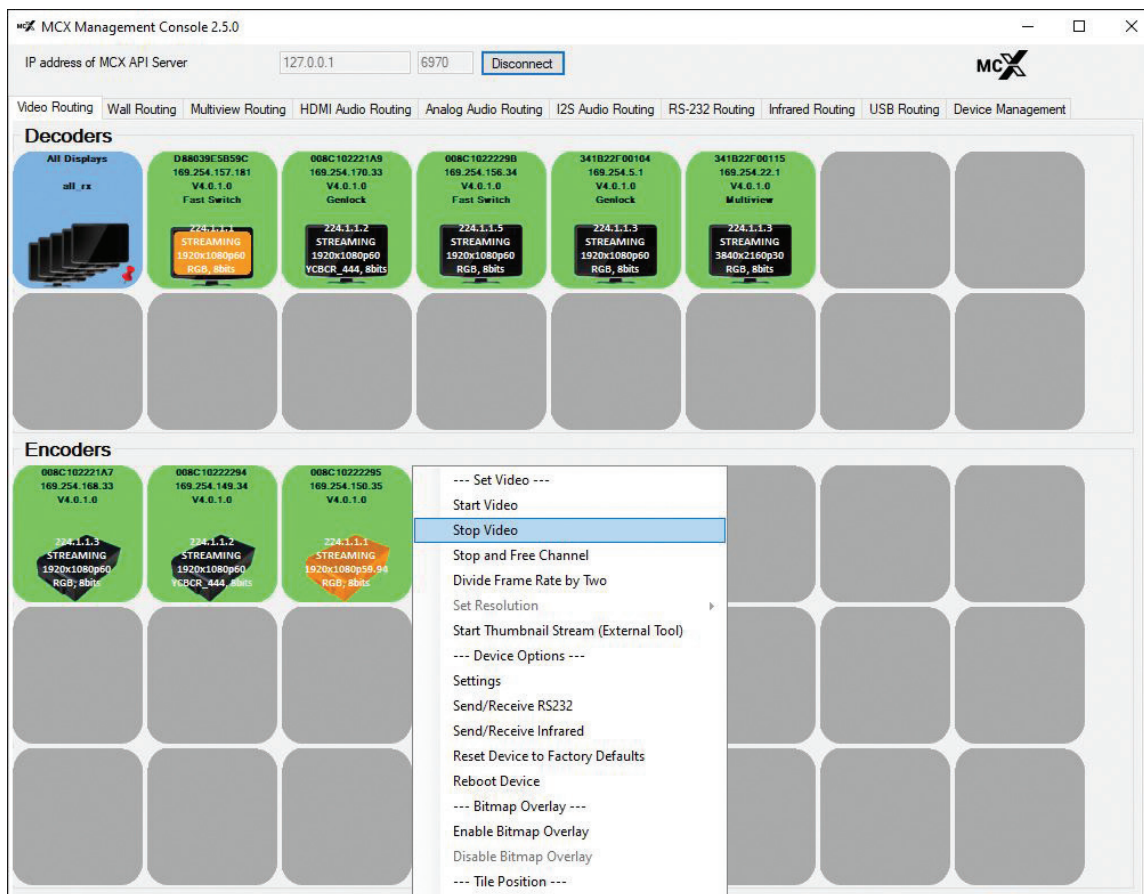

FIGURE 4-3. START/STOP OPTIONS OF ENCODER (TX) MENU
Refer to Figure 4-3, Start/Stop options of encoder (TX) menu.
4.1.4.6 DISCONNECTING A SOURCE FROM A DECODER (RX)